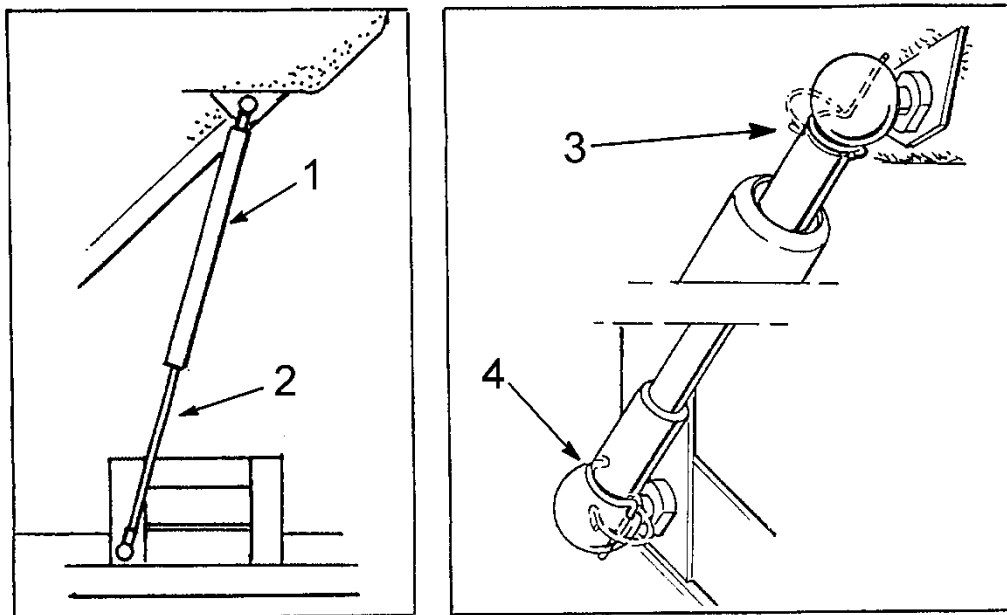

Fig 6.3 - The Gas Spring
- c) *Check that the ball joint retaining clips are in good condition and fitted correctly. (Fig 6.3 items 3&4)*